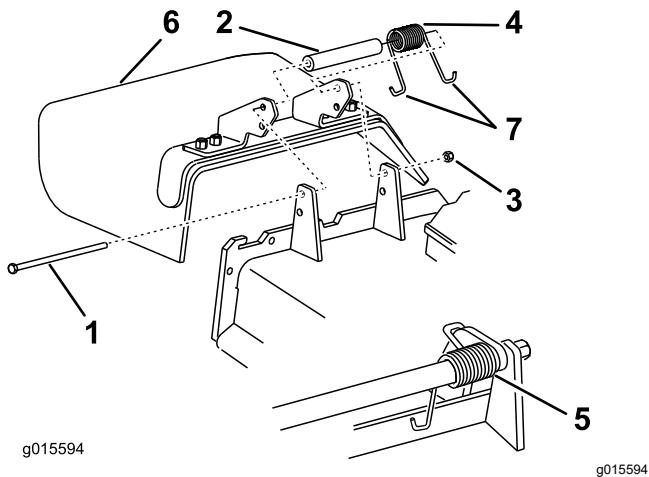

Figure 100
1. Remove the locknut, bolt, spring, and spacer holding the deflector to the pivot brackets (Figure 100).
2. Remove the damaged or worn grass deflector (Figure 100).
**Note:** Make sure that 1 J-hook end of the spring is installed behind the deck edge before installing the bolt as shown in Figure 100.
6. Place 1 J-hook end of the spring around the grass deflector (Figure 100).